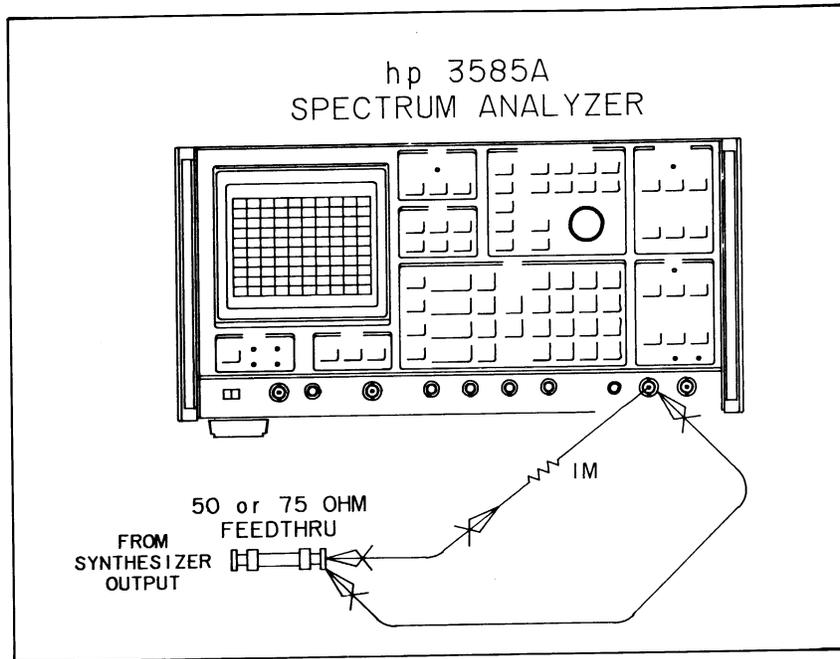

Figure 4-3. 1 M ohm Input Impedance Test
e. Using short clip leads, insert the 1 MΩ resistor between the output of the termination and the 3585A 1 MΩ input as shown in Figure 4-3. 1M Ohm Input Impedance Test.